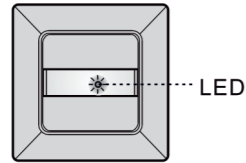

FIG. 16
4.5.1.1 The LED of Mc Guard is behind the lens. (See FIG. 16)